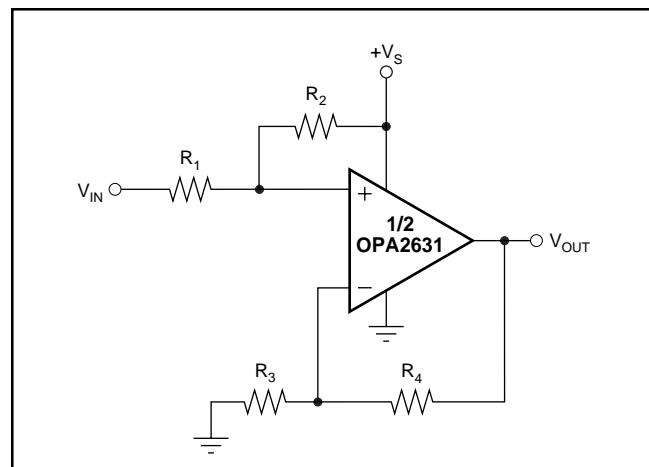

FIGURE 5. DC Level Shifting Circuit.
Figure 5 shows a DC-coupled non-inverting amplifier that level-shifts the input up to accommodate the desired output voltage range. Given the desired signal gain (G) and the amount V_{OUT} needs to be shifted up (ΔV_{OUT}), when V_{IN} is at the center of its range, the following equations give the resistor values that produce the desired performance. Start by setting R_4 between 200Ω and $1.5\text{k}\Omega$.